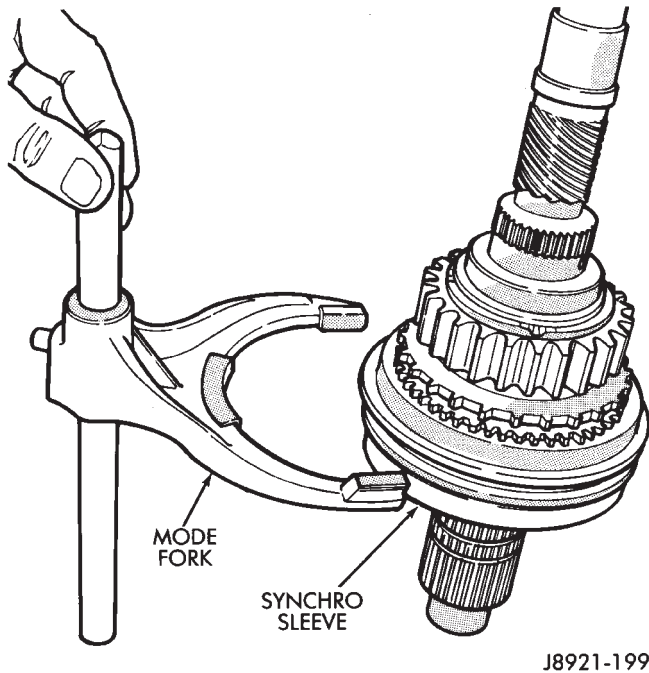

Fig. 12 Removing Mode Fork From Sleeve
(23) Remove mode fork and shift rail from synchro sleeve (Fig. 12).